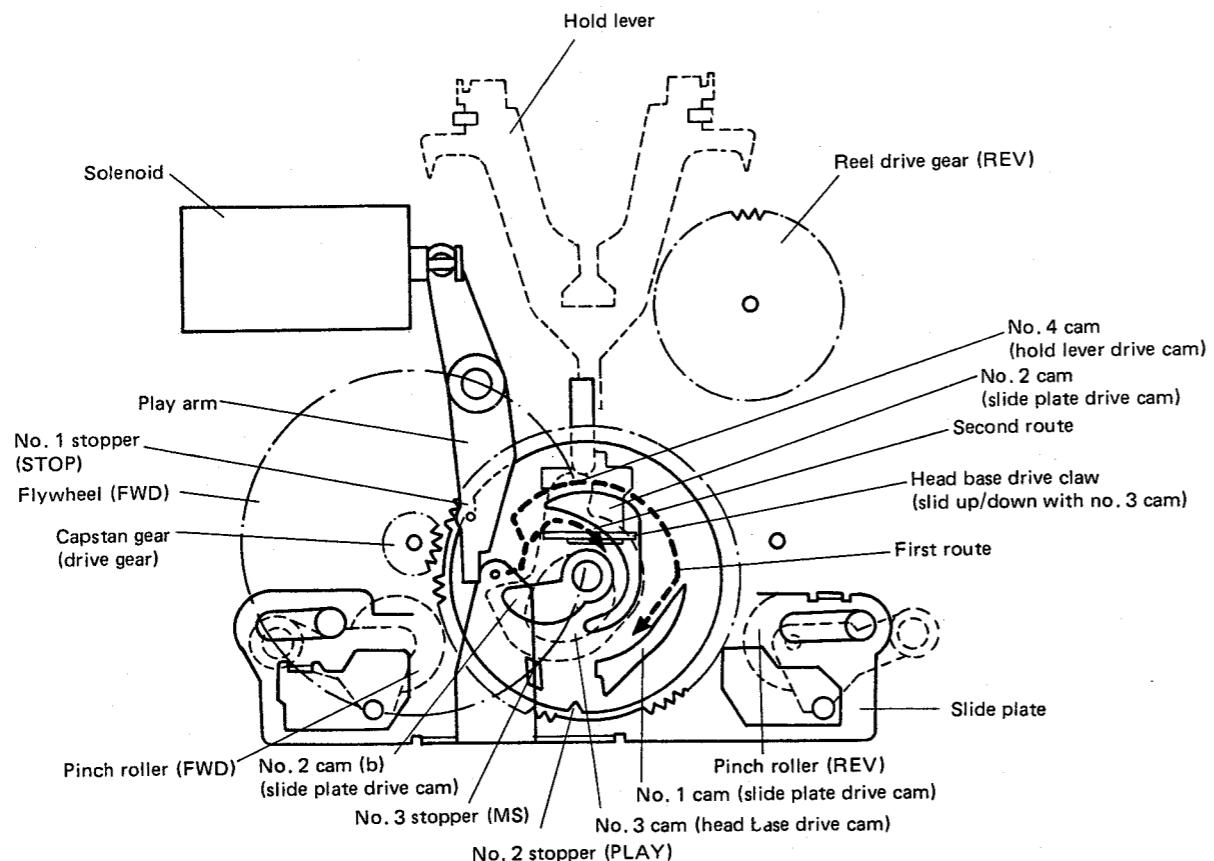

Fig. 1-3 Stop mode
The cam drive system as seen from behind is outlined in Fig. 1-3. The cam gear is stopped when no. 1 cam gear stopper is engaged with the play arm pin (the position shown in the diagram).
- (1) If the STOP key is pressed when changing from forward, playback to music search mode, the solenoid is deactivated and the play arm pin is disengaged from no. 3 cam gear stopper, resulting in the cam gear being forced counter clockwise by the head base.
- (2) Since the hold lever is released from no. 4 cam when the cam gear is rotated, the hold lever is dropped suddenly resulting in the two hold lever prongs engaging the reel drive gear (FWD, REV) to apply the brake.
- (3) The cam gear rotation also results in the head base and pinch roller being dropped to the STOP position by no. 3 cam.
- (4) After the cam gear has been rotated by about 105° , the play arm pin meets no. 1 stopper bringing the cam gear to a stop and putting the deck into stop mode (see Fig. 1-3). In this condition, the brake is released by no. 4 cam.
- (1) If the STOP key is pressed when changing from reverse playback to music search mode, the solenoid is deactivated and the play arm pin is disengaged from no. 3 cam gear stopper, resulting in the cam gear being forced counter clockwise by the head base.
- (4) The slide plate is shifted across to the left by no. 2 cam (b) of the cam gear, and the revolving head is reverted to the FWD direction.
- (5) After the cam gear has been rotated by about 105° , the play arm pin meets no. 1 stopper bringing the cam gear to a stop and putting the deck into stop mode (see Fig. 1-3). In this condition, the brake is released by no. 4 cam.